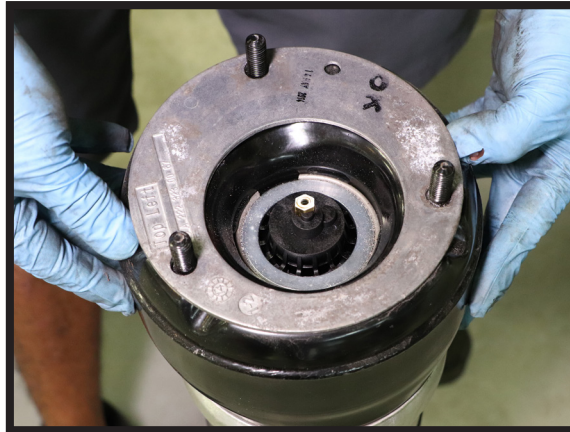

FIGURE 20
2. INSTALL THE TOP MOUNT PLATE ON TO THE NEW STRUT. (FIGURE 20)